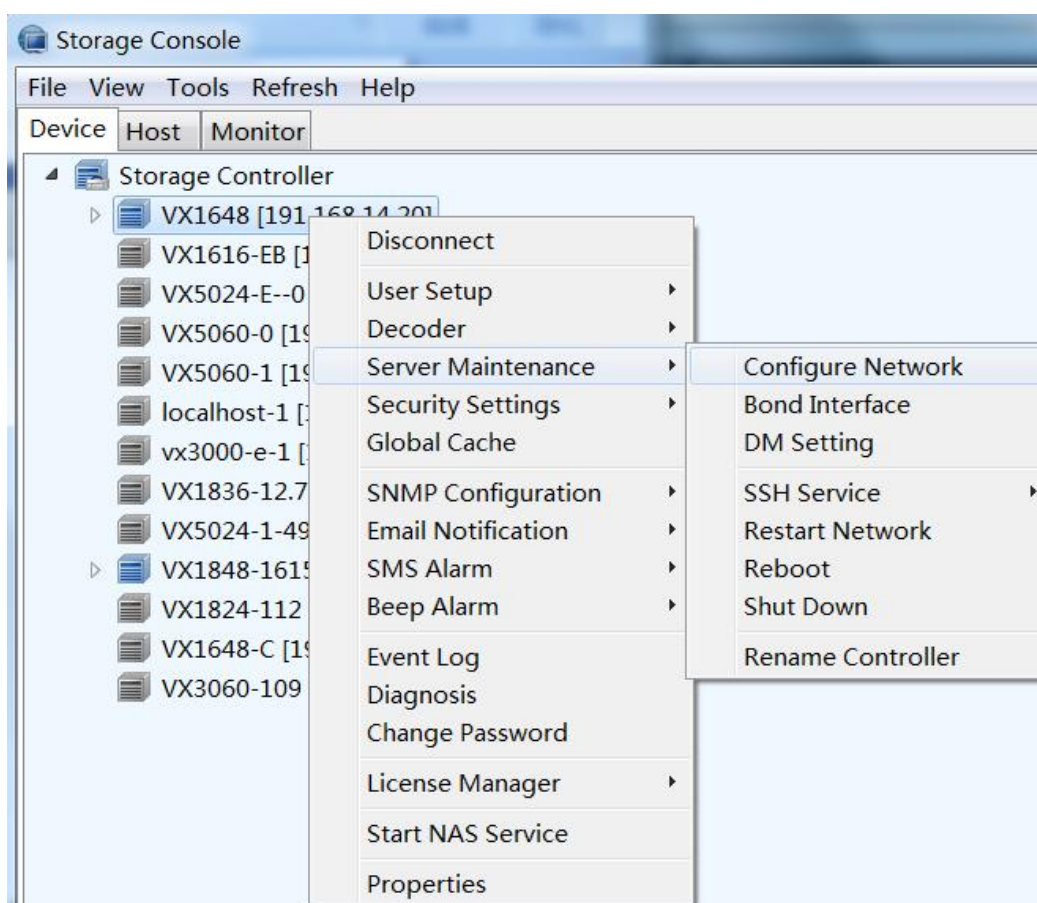

Figure 10-3 Setting the network port IP address
(1) Log in to the storage interface. Right click the **hostname** node of the storage controller and change the IP of the other service ports in [Server Maintenance > Configure Network], as shown in the Figure 10-3: